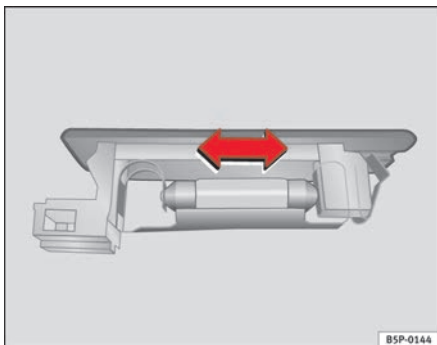

Fig. 171 Luggage compartment light
- Press the lamp sideways and remove from its housing ⇒ fig. 171.